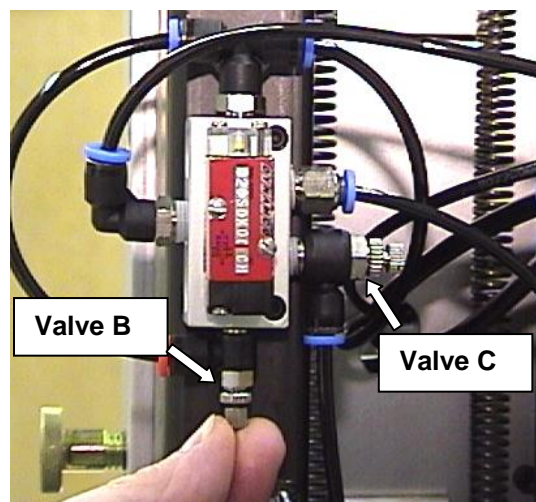

Figure 17
1. Loosen the knurled jam nut on the valve as indicated. (Valve B, Figure 17)
1. Loosen the knurled jam nut on the valve as indicated. (Valve C, Figure 17)